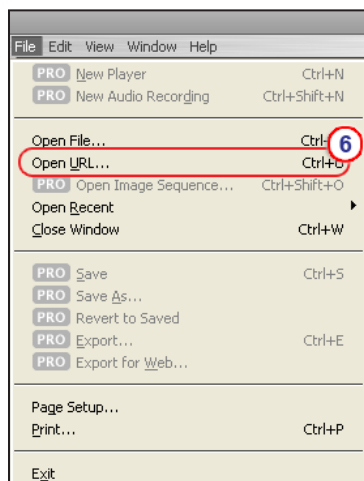

Figure 112. QuickTime Player Menu – Open URL
6. The QuickTime media player appears. From the **File** menu, select **Open URL** (see figure 112).